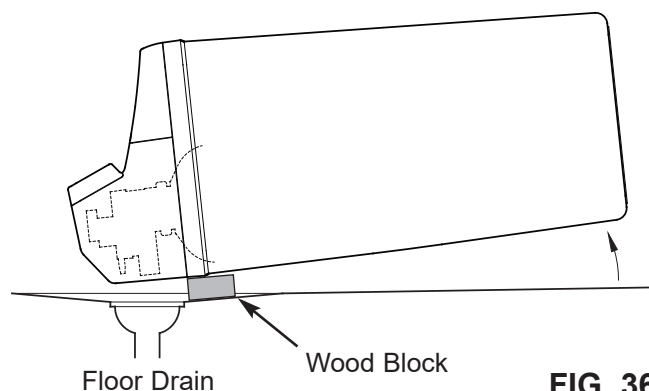

FIG. 36
6. Lay a piece of 2 inch thick board near the floor drain (See Figure 36).